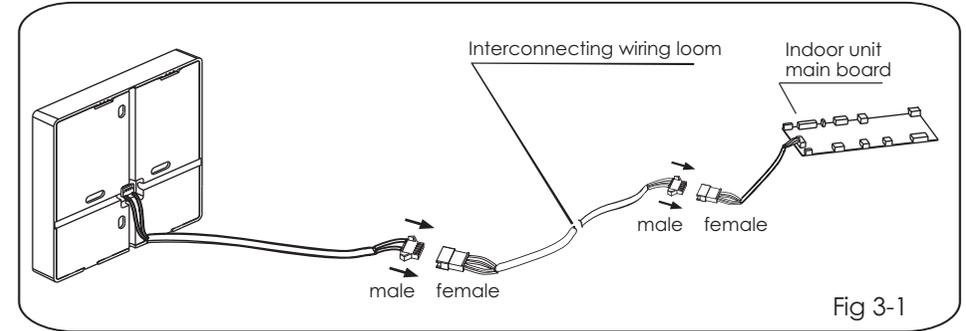

Fig 3-1
1. Connect the female wiring connector from the indoor unit main board with the male connector of the interconnecting wiring loom. (See Fig.3-1)
2. Connect the other end of the interconnecting wiring loom to the male wiring connector from the wired control. (See Fig.3-1)